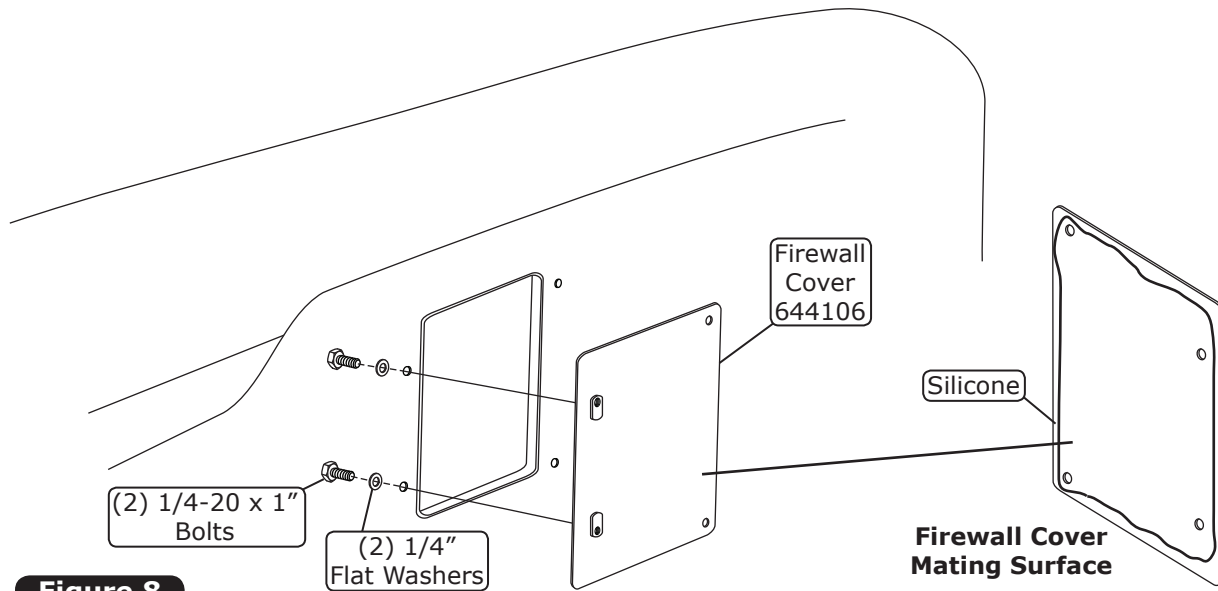

Figure 8
1. Apply a 1/4" bead of silicone around the mating surface of the firewall cover (See Figure 8, below).
2. From the passenger compartment, install the firewall cover onto the firewall. From the engine compartment, secure the firewall cover to the firewall using (2) 1/4-20 x 1" bolts and (2) 1/4" flat washers (See Figure 8, below). **NOTE: For a finished appearance and a watertight seal, Vintage Air recommends applying a smooth bead of automotive seam sealer in the engine compartment to the joint between the firewall cover and the firewall.**